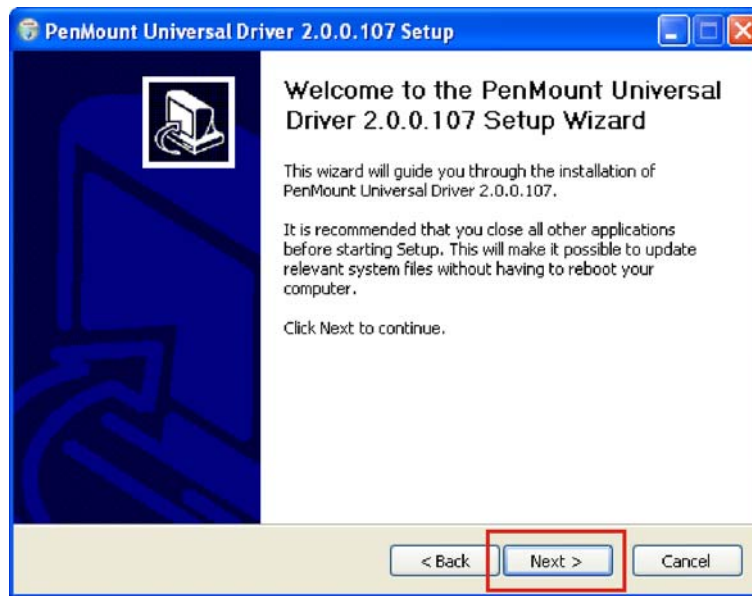

Figure 6-23: Access Startup Folder
Step 4: The **Touch Panel Driver Installation Wizard** window appears (Figure 6-23).
Step 5: Click **NEXT** to begin the touch panel driver installation process (Figure 6-23).